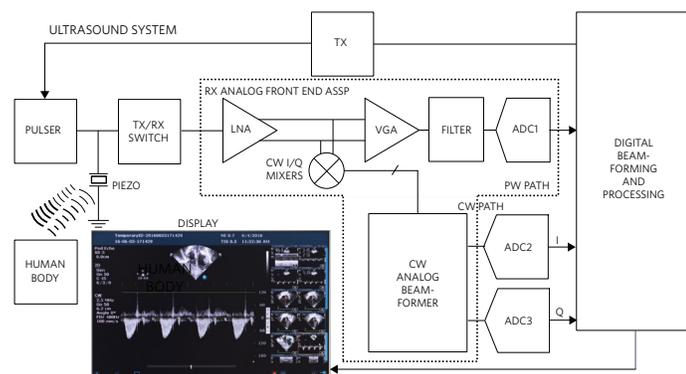

Figure 1. Ultrasound System (A Single Channel)
The ultrasound transmitter applies acoustic waves to the body. The ultrasound receiver picks up the echoes reflected from the body structure, typically by means of an array of piezoelectric transducers (Figure 1). The target is identified by the characteristic delay of the reflected pulse, with delays corresponding to distance traveled using Pulsed Wave (PW) transmission. In this
From a partitioning standpoint, the entire PW path is often integrated into an analog front end (AFE) monolithic IC (ASSP). The AFE is tapped at the LNA output by the CW Mixers to produce the I, Q signals. The CW Analog Beamformer collects the I, Q signals from the entire array of transducers, aligns and sums them. The two beamformed signals are each digitized by external precision ADCs (ADC2 and ADC3 in figure 1) for information extraction and display.